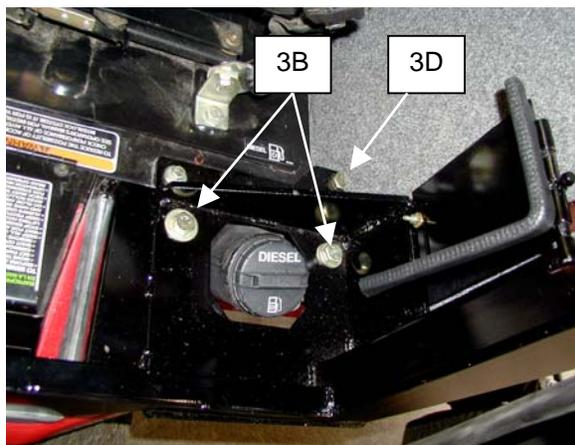

Figure 3B & 3D
- B. Lower cab onto tractor and fasten the rear of cab to rear mounts with four $\frac{1}{2}$ " x 1-1/4" Grade 5 bolts, flat washers, lock washers and nuts. Figure 3B. (DO NOT tighten bolts, this time).